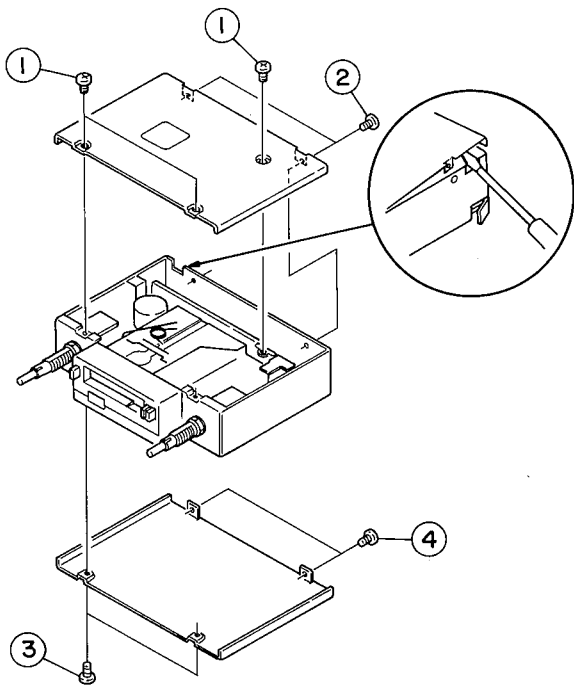
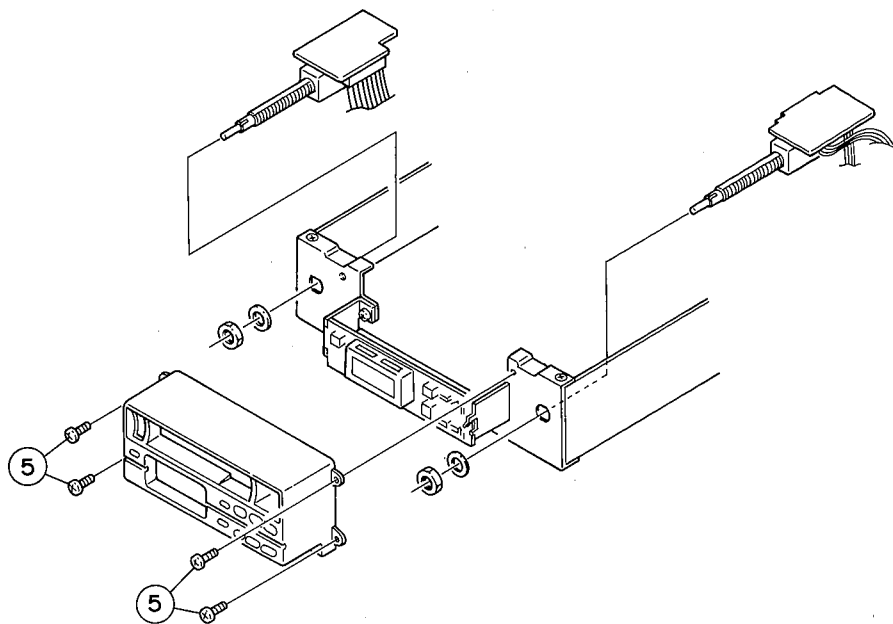

Fig. 5-1
Fig. 5-2
■ Top Cover and Bottom Cover (refer to Fig. 5-1)
1. Remove five screws ① and ② retaining the top cover.
3. Remove four screws ③, ④ retaining the bottom cover.
■ Nose Piece Assembly (Fig. 5-2)
1. Remove four screws ⑤ retaining the nose piece assembly from the front chassis.
■ Volume/Balance/Fader assembly and TONE Tuning assembly (Fig. 5-2)